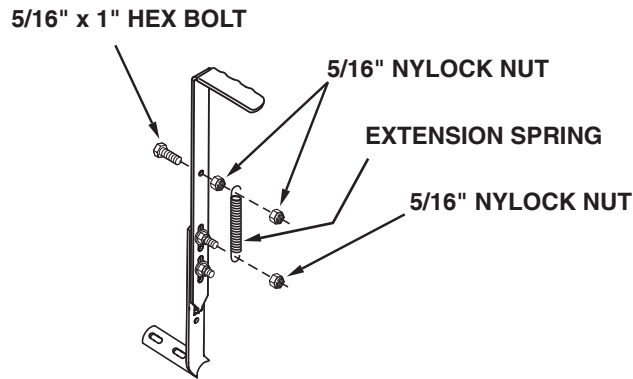

FIGURE 8
18. Assemble a 5/16" x 1" hex bolt and a 5/16" nylock nut into the top hole in the height adjustment handles. See figure 8.
19. Assemble the extension spring onto the end of the upper bolt and the middle bolt in the height adjust handles. Assemble a 5/16" nylock nut onto each bolt so that one thread of the bolt extends through the nut. See figure 8.